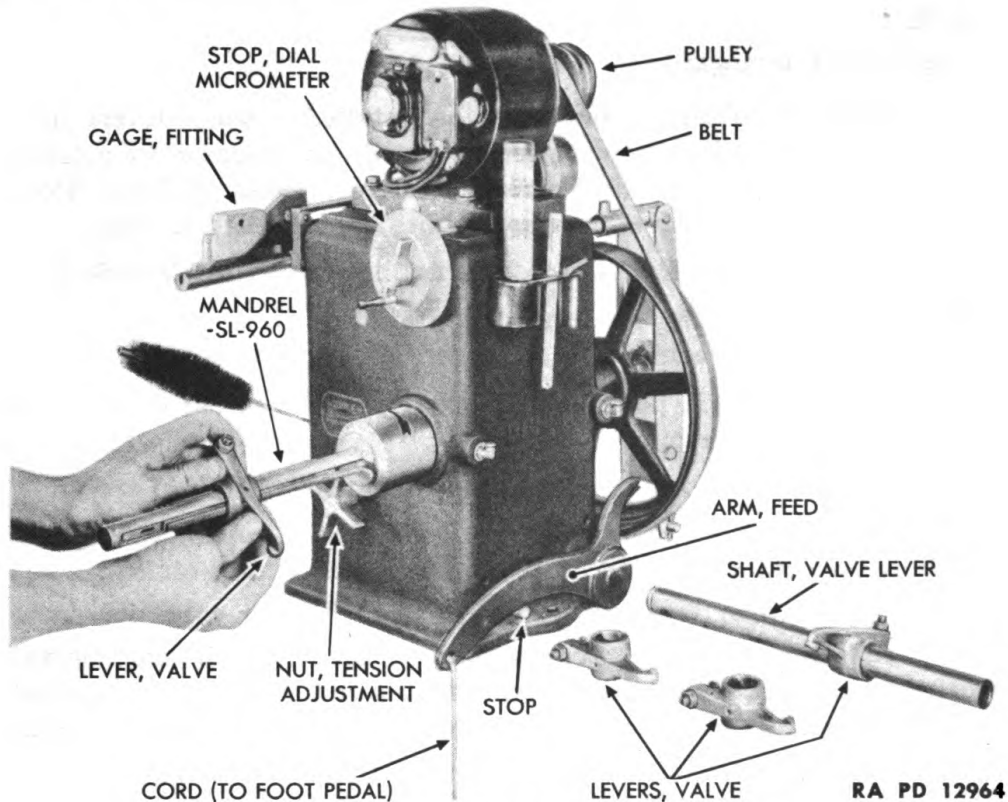

Figure 94—Valve Lever Bushing Honing
(4) **HONING VALVE LEVER BUSHING** (fig. 94). Proceed as in instructions given for honing connecting rod bushing, with the exception that mandrel No. SL-960 or equivalent is used for this operation. Clearance between bushing and valve lever shaft is 0.0015- to 0.002-inch.